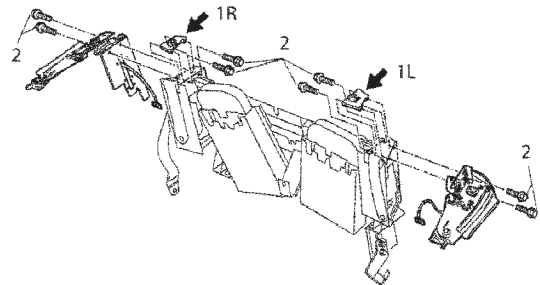

Figure 2
3.2 Remove left and right mounting console. The mounting consoles (Figure 2, arrow 1R/1L) are fastened with four M6 x 20 hexagon-head bolts each (Item 2). Disconnect the electrical plug connection on the left mounting, see POSES, Workshop Manual 911 Cabriolet, Group 6, 61 42 19 – Removing and installing rear side section flap.
3.3 Install modified mounting console on the left (996.561.653.04) and right (996.561.654.04). Insert mounting console on the left/right on the vehicle and screw down with four M6 x 20 hexagon-head bolts each (Figure 2, Item 2). Tightening torque: 10 Nm (7.5 ftlb.). Connect the electrical plug connection on the left mounting, see POSES, Workshop Manual 911 Carrera Cabriolet, Group 6, 61 42 19 – Removing and installing rear side section flap.